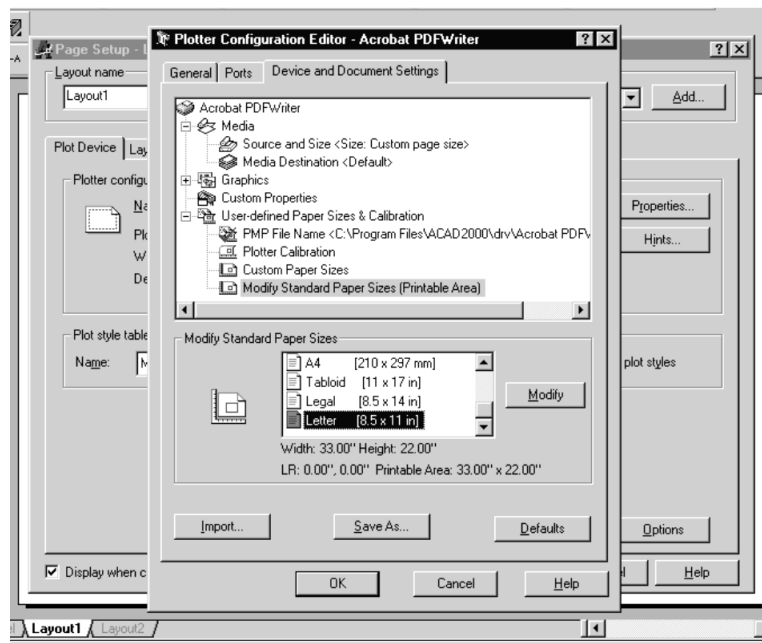

Figure 2.18
- From the *Plotter Configuration Editor* window (Figure 2.18)